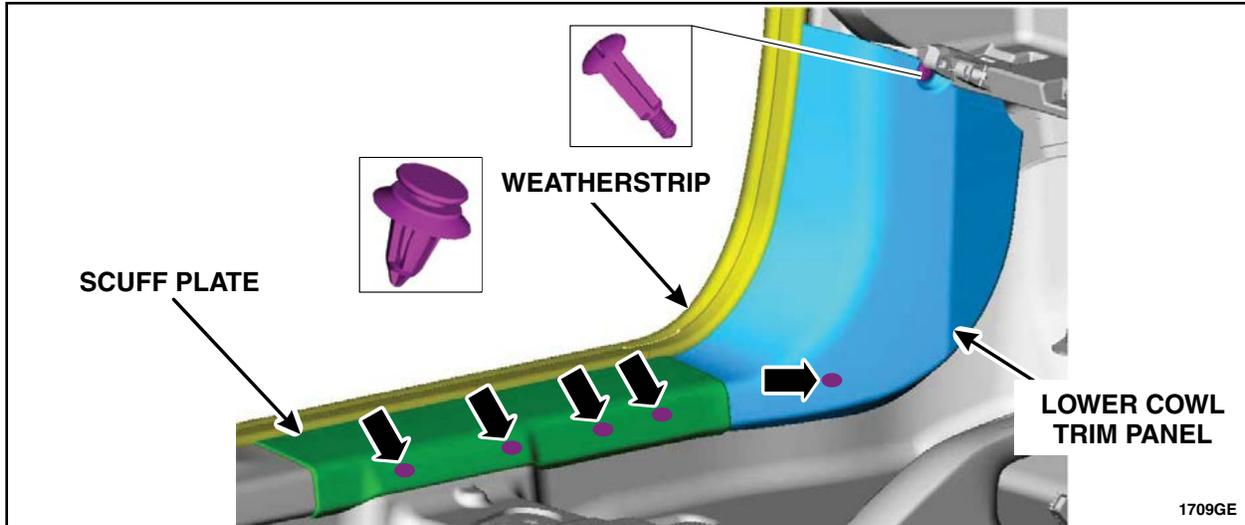

FIGURE D1
2. Position the LH front door weatherstrip aside, remove the push-pins, the scuff plate and the lower cowl trim panel. See Figure D1.
30. Install the scuff plate and the lower cowl trim panel. Install the push pins. See Figure D1.
31. Position the LH front door weatherstrip back. See Figure D1.